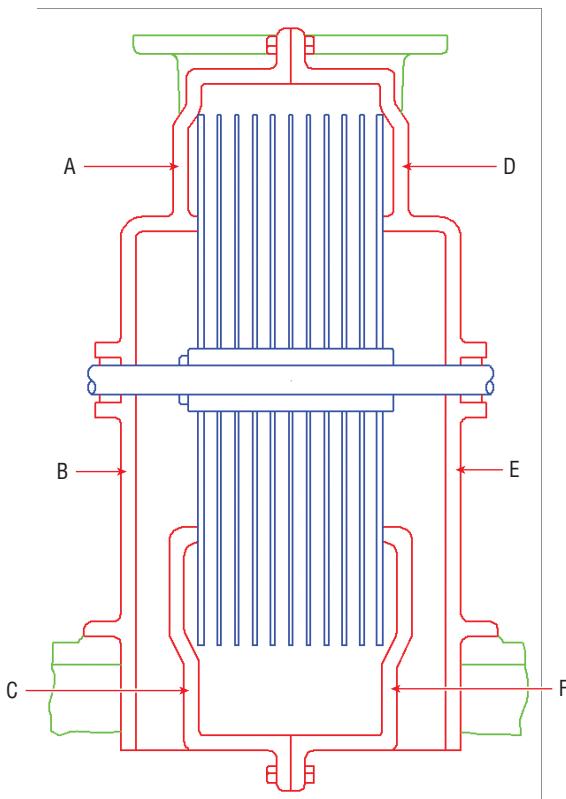

FIGURE 8.12 Picking points inside the metal housing to determine hatch boundaries
4. Click points A through F inside the red housing, as shown in Figure 8.12. A solid hatch appears within the red boundaries.